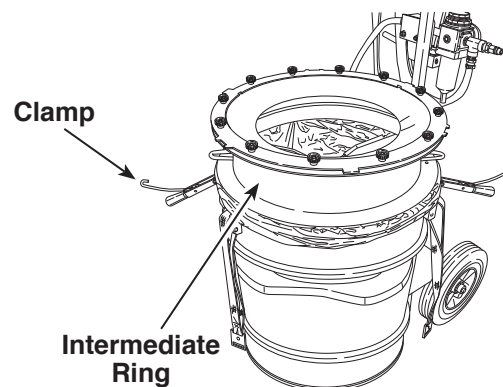

Figure 22
2. Unclamp and remove the intermediate ring from the canister. See Figure 22.